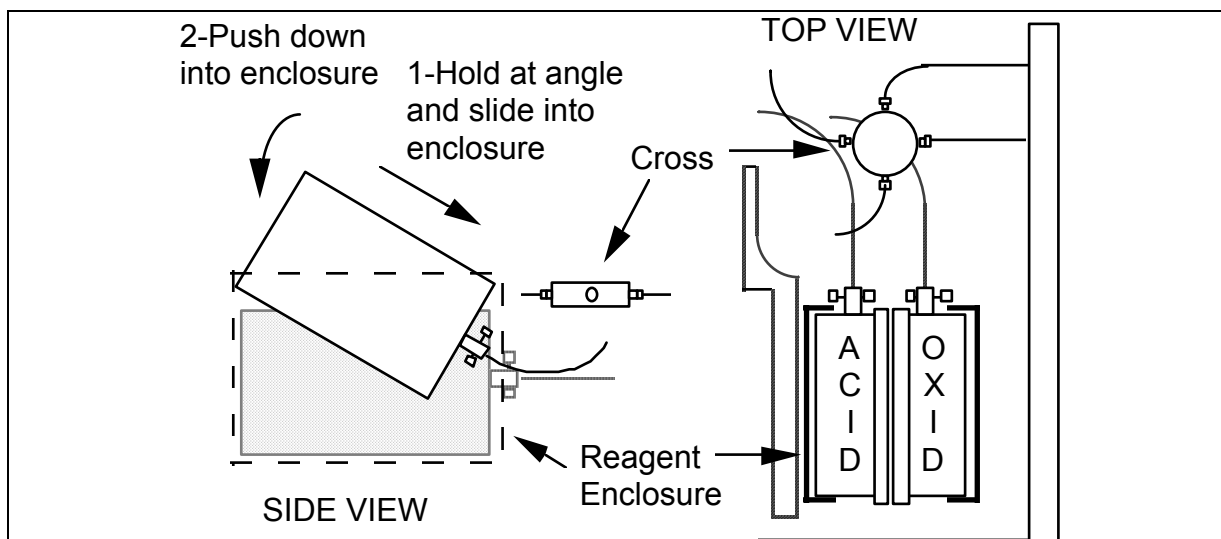

FIGURE 8-2: Installing Reagent Containers
9. Hold the acid container with the lid facing inward toward the oxidizer container (see Figure 8-2). Install the acid container on the left-hand side of the enclosure by holding the container at an angle with the Mininert valve pointing down, sliding the valve underneath the cross into the slot at the rear of the enclosure, then lowering the container into the enclosure.